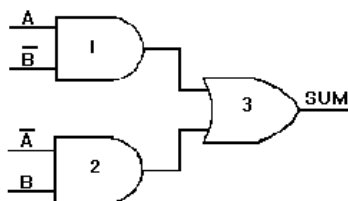

Figure 3-6. —Quarter adder.
The combination of gates in figure 3-6 will also produce the desired results. When A and B are both LOW (0), the output of each AND gate is LOW (0); therefore, the output of the OR gate is LOW (0). When A is HIGH and B is LOW, then  $\bar{B}$  is HIGH and AND gate 1 produces a HIGH output, resulting in a sum of 1 at gate 3. With A LOW and B HIGH, gate 2 output is HIGH, and the sum is 1. When both A and B are HIGH, neither AND gate has an output, and the output of gate 3 is LOW (0); no carry is produced.